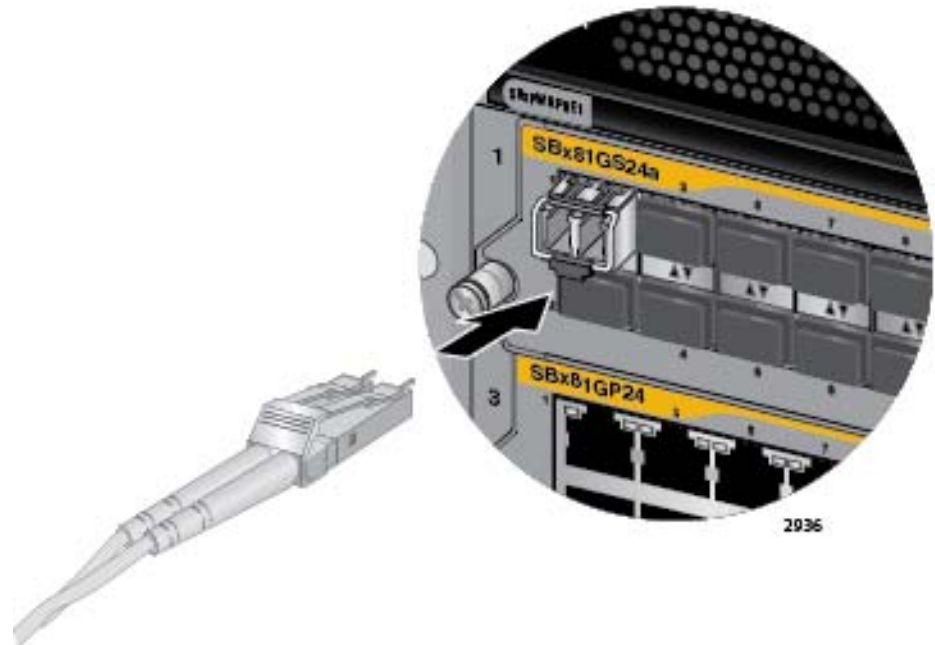

Figure 85. Attaching a Fiber Optic Cable to an SFP Transceiver in the AT-SBx81GS24a Line Card
7. Connect the fiber optic cable to the port on the transceiver, as shown in Figure 85. The connector should snap into the port.